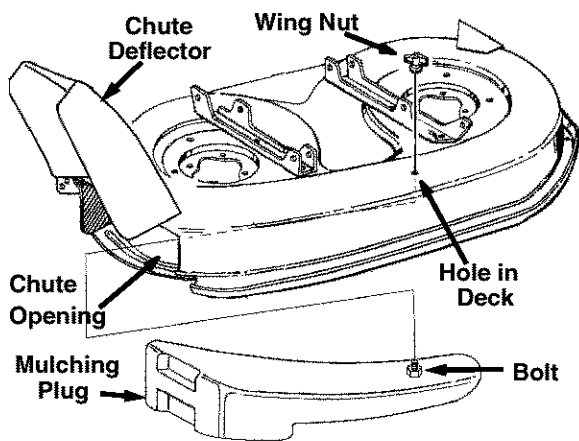

Figure 6
- Lift up the chute deflector and insert the mulching plug through chute opening. See Figure 6.